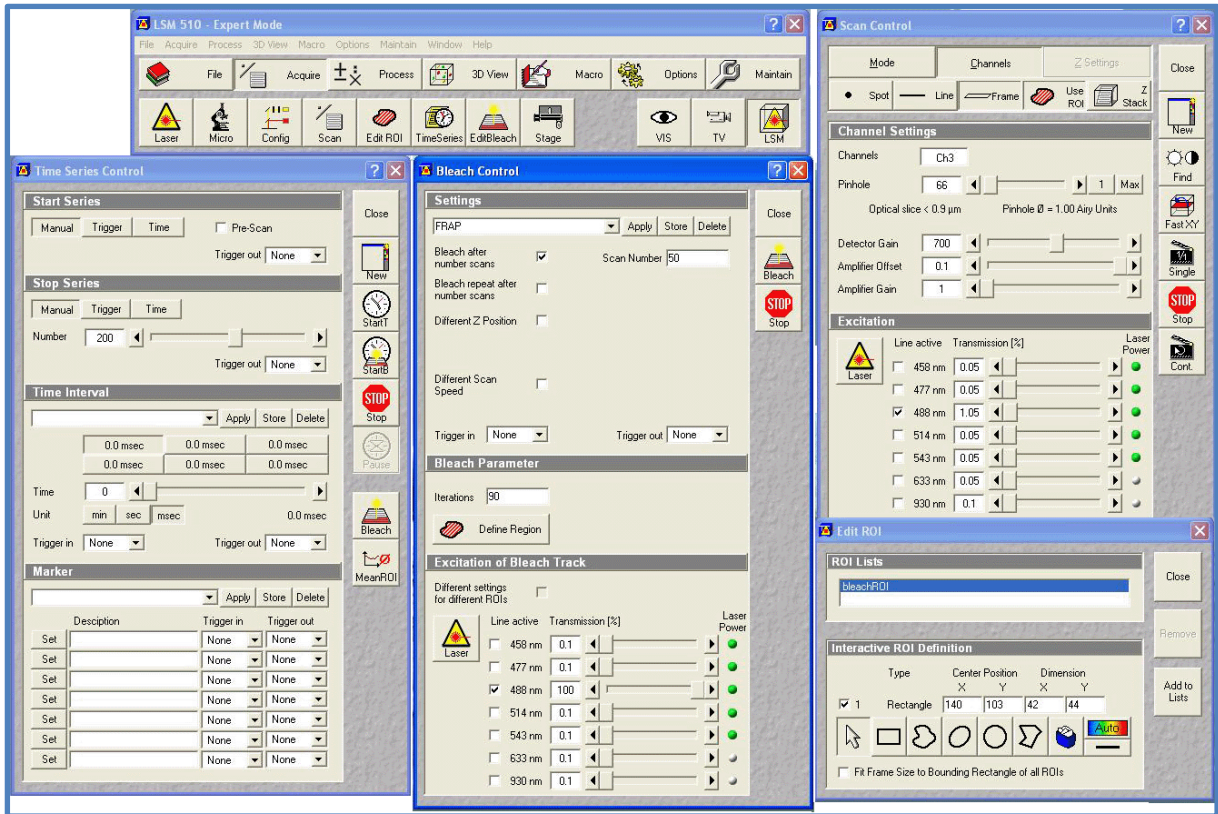

Figure 5.
- Set up the bleach parameters Edit Bleach - Bleach Control panel, [see Figure 5]. Set up the required number of pre-bleach scans [Bleach after number of scans (tick) Scan number e.g. 50]. Set the number of bleach iterations for the bleach event [Bleach parameter - Iterations] using the value obtained from the Bleach iterations control experiment described above.
- Set up a time series to include the pre-bleach scans and then a reasonable number of scans for the recovery [see Figure 5].